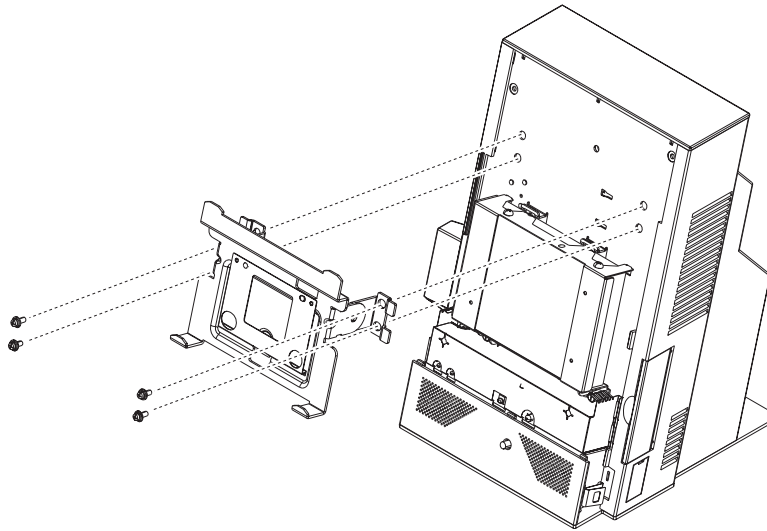

Figure 30. Hinge assembly
7. Remove the four screws shown in Figure 30.